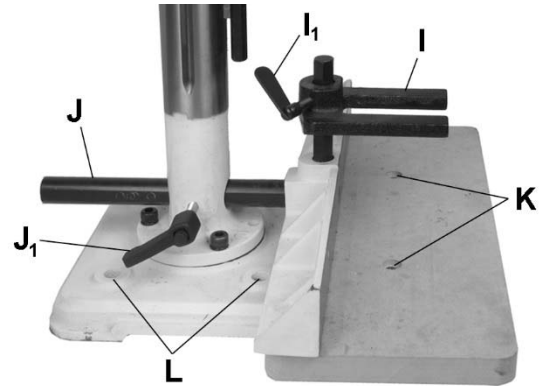

Figure 8-2
5. Attach table to base using two flat head screws (K, Figure 8-2).
6. Insert bar of fence assembly (J, Figure 8-2) through hole in column. Use the fence-locking handle (J₁) to adjust fence assembly.
This machine must be fastened to a supporting surface to prevent it from tipping during operation. The base has four 3/8" diameter holes (L, Figure 8-2) for this purpose. Mounting fasteners are not included.